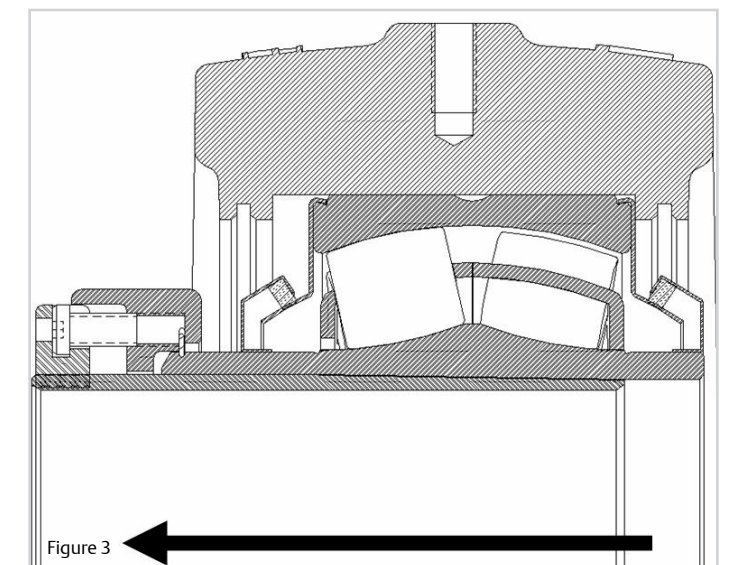

Figure 3
- If the direction of shaft growth is in the direction seen in Figure 3, align the bearing as shown.
- If the direction of shaft growth is opposite to that shown in Figure 3, center the insert in the housing.